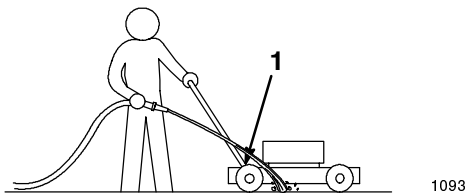

Figure 15
3. Hold the running garden hose at handle level and direct the water to flow on the ground just in front of the right rear tire (Fig. 15).